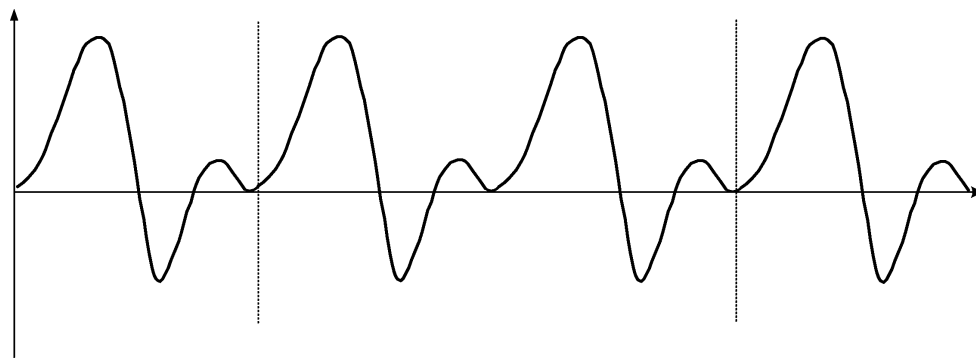

Figure 9-2. Measuring TAM on the Doppler spectrum.
- 2 Position 2 line markers to specify the time interval (number of cycles) over which the frequency values are averaged. (See Fig 9-2.)